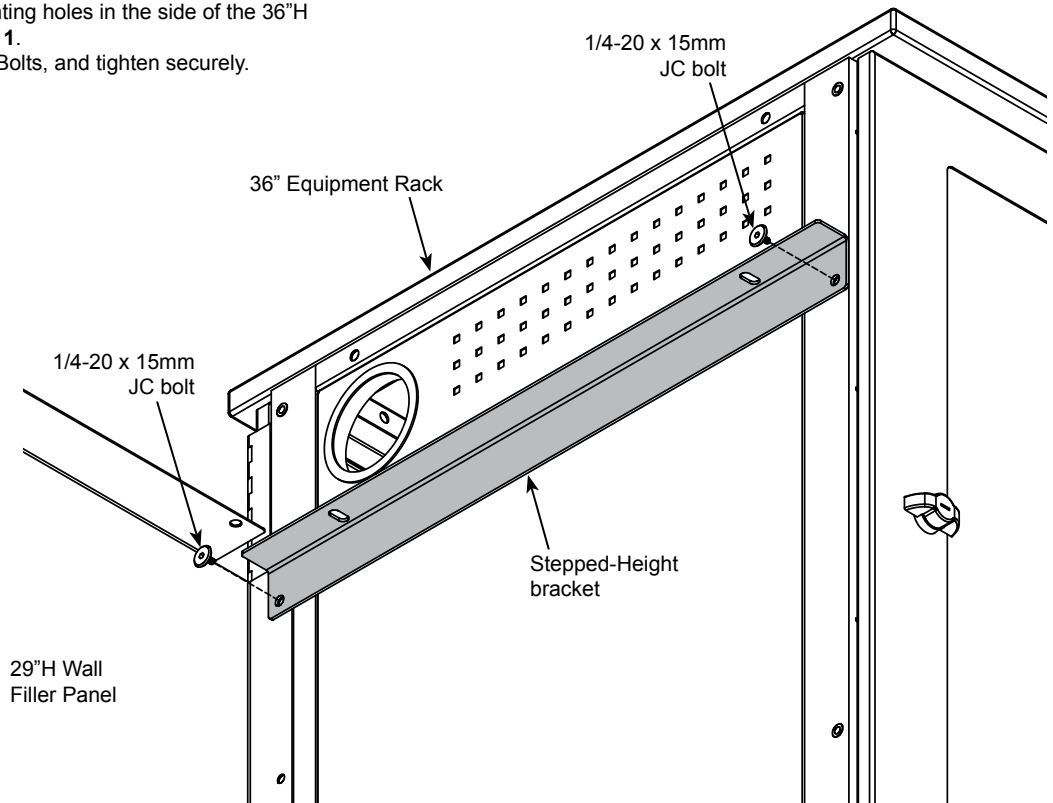

Figure 1
2. Align the bracket with the (2) mounting holes in the side of the 36"H equipment rack as shown. **Figure 1.**
3. Attach with (2) 1/4-20 x 15mm JC Bolts, and tighten securely.